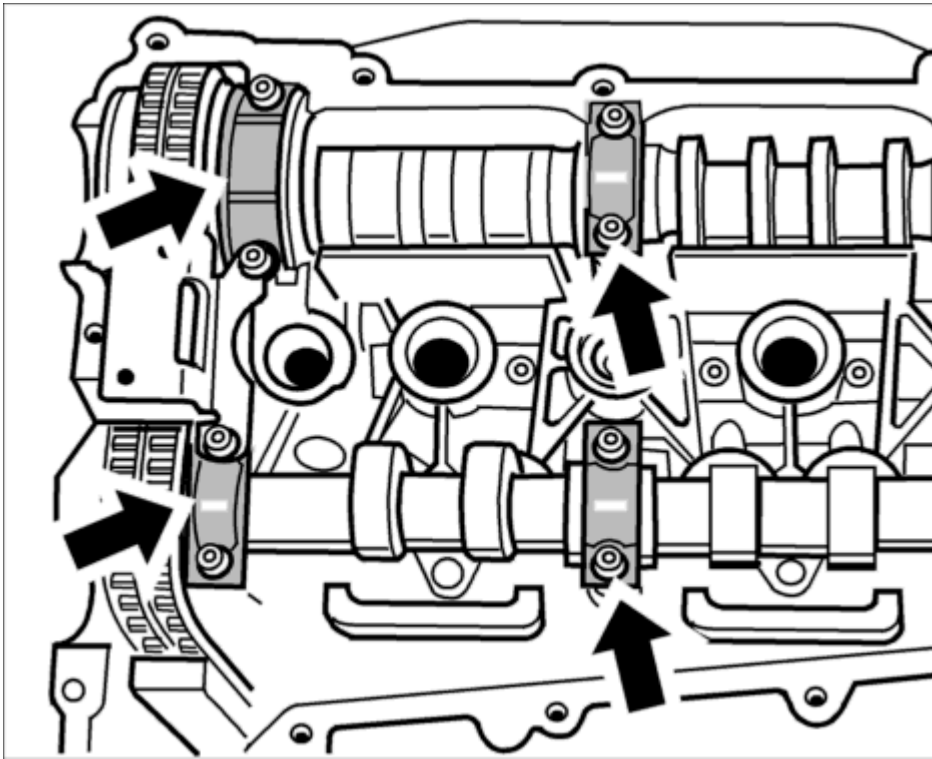

Fig. 29: Installation position of housing
9. Insert three thrust bearings and one housing **-arrows-** for the bearing sleeve of the camshafts together with the guide rail for the timing chain. See **Fig. 29**.